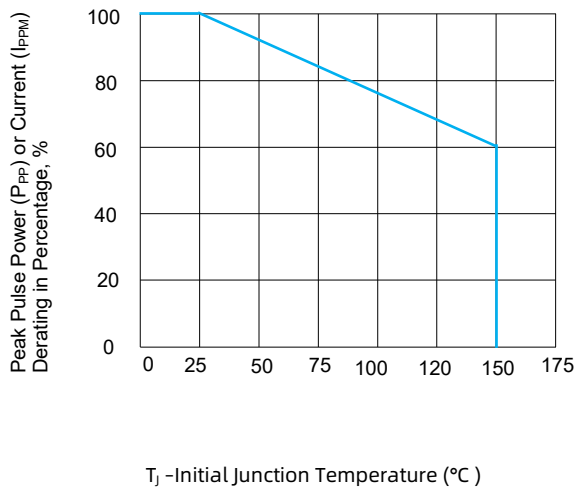
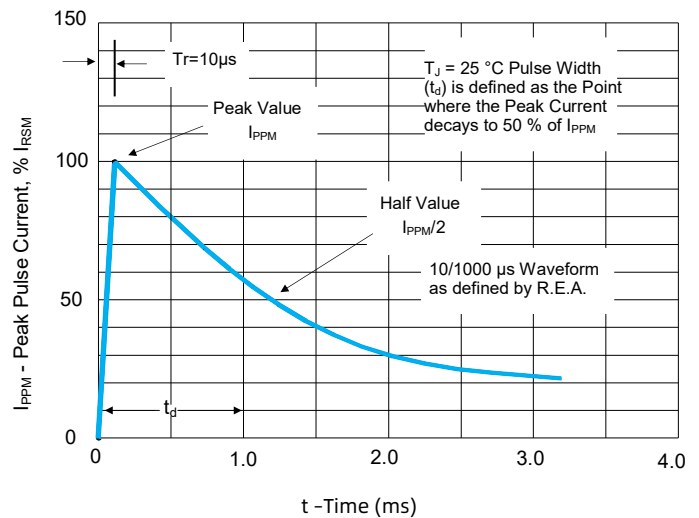

FIGURE 3 Peak Pulse Power Derating Curve
FIGURE 4 Pulse Waveform
1. Non-repetitive current pulse, per Fig. 4 and derated above T_J(initial)=25°C per Fig. 3.